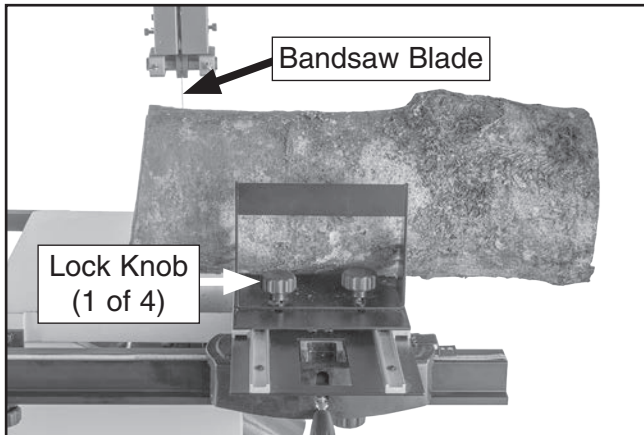

Figure 3. Workpiece secured in log holders.
5. Rest workpiece between log holders and align bandsaw blade with intended line of cut (see **Figure 3**).
6. Adjust log holders until workpiece is secure, then tighten lock knobs (see **Figure 3**).